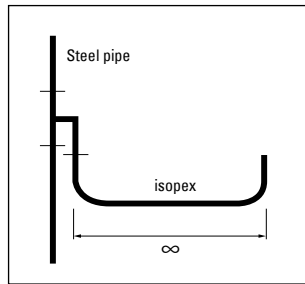

fig. 2
- If parallel branches are used, the isopex pipe must be bent immediately after the connection point, see fig. 2.